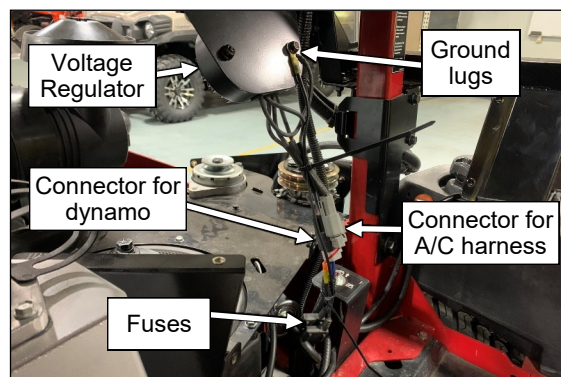

Fig. 6.8 (Voltage Regulator Connections)
- 6.8 See fig. 6.8. Connect the 2-pin connector from the voltage regulator attached to the rear frame of the cab, to the 2-pin connector from the main A/C wire harness. Connect the black wires with ring lugs under the nut on the left side of the regulator.